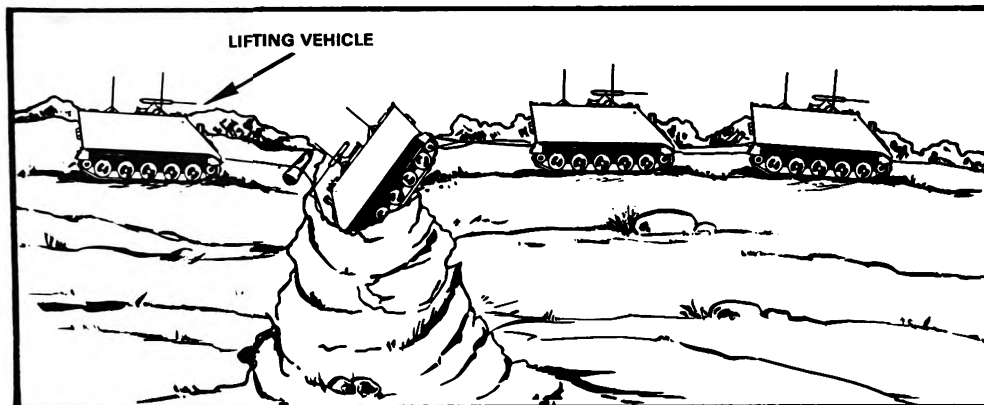

Figure 2. Recovering nosed APC with similar vehicles.
c. The recovery of a nosed tracked vehicle (figure 2) may require as many as three similar vehicles, depending on the degree to which it is nosed and the condition of the terrain on which the pulling vehicles must operate. In extreme situations, a source of effort may be necessary to lift the front of the nosed vehicle. To use a lifting vehicle, two or more tow cables should be connected together to obtain a greater working distance between the nosed vehicle and the lifting vehicle. The lifting vehicle should be positioned facing the nosed vehicle. The cables of the pulling vehicles are connected in the same manner as for recovery of a mired vehicle. Power should be applied to all the assisting vehicles at the same time, until the front of the nosed vehicle is raised and starts moving rearward, then the lifting vehicle should move forward slowly supporting the vehicle until it is recovered. If there has been any spillage of oil or fuel in the nosed vehicle, its engine should not be operated until such spillage has been cleaned up.